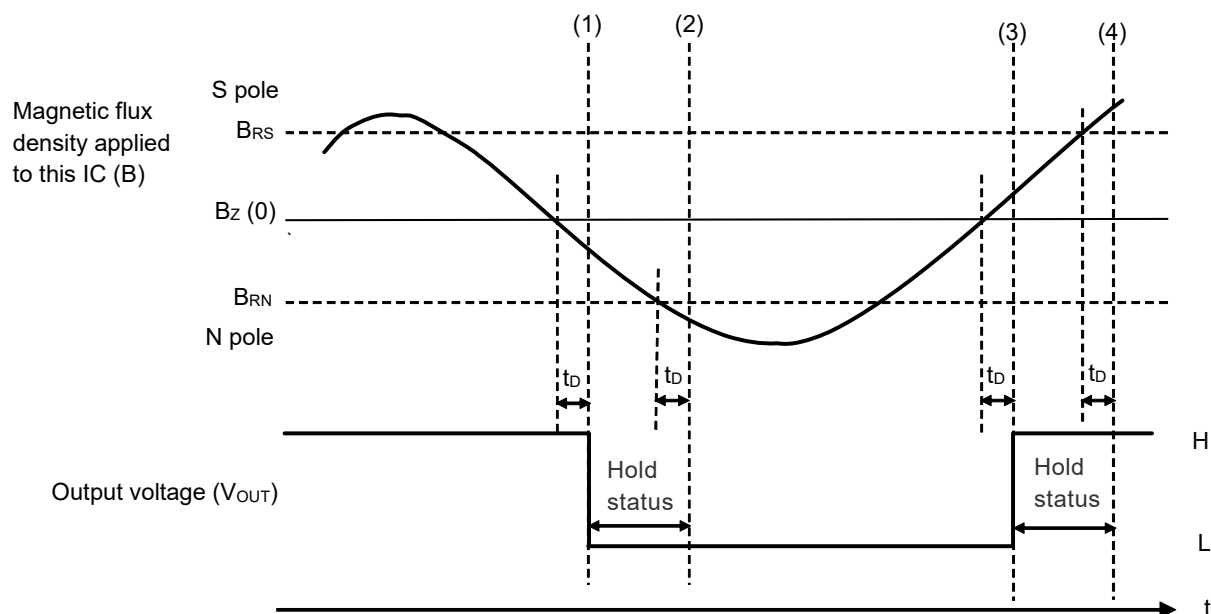

Figure 17 Product with  $V_{OUT} = "H"$  at S pole detection
**Figure 16** and **Figure 17** show the  $V_{OUT}$  operation timing when sine wave magnetic flux density is applied to this IC.
- (1)  $B > B_{RS} \rightarrow B < B_Z$ , and after  $t_D$ ,  $V_{OUT} = "L" \rightarrow "H"$ , and Hold status starts
- (2)  $B < B_Z \rightarrow B < B_{RN}$ , and after  $t_D$ , Hold status is released, and  $V_{OUT} = "H"$  continues
- (3)  $B < B_{RN} \rightarrow B > B_Z$ , and after  $t_D$ ,  $V_{OUT} = "H" \rightarrow "L"$ , and Hold status starts
- (4)  $B > B_Z \rightarrow B > B_{RS}$ , and after  $t_D$ , Hold status is released, and  $V_{OUT} = "L"$  continues